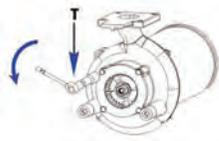

Fig. 1
- 6) To avoid dry operation, install an automatic operating system. These pumps must be installed with a minimum of 4" clearance under the pump inlet for the entrance of sewage solids shown in Fig 1.
- 1) Remove the 4 bolts from cutter ring seat with socket wrench/spanner, then remove cutter ring. (Fig 1)